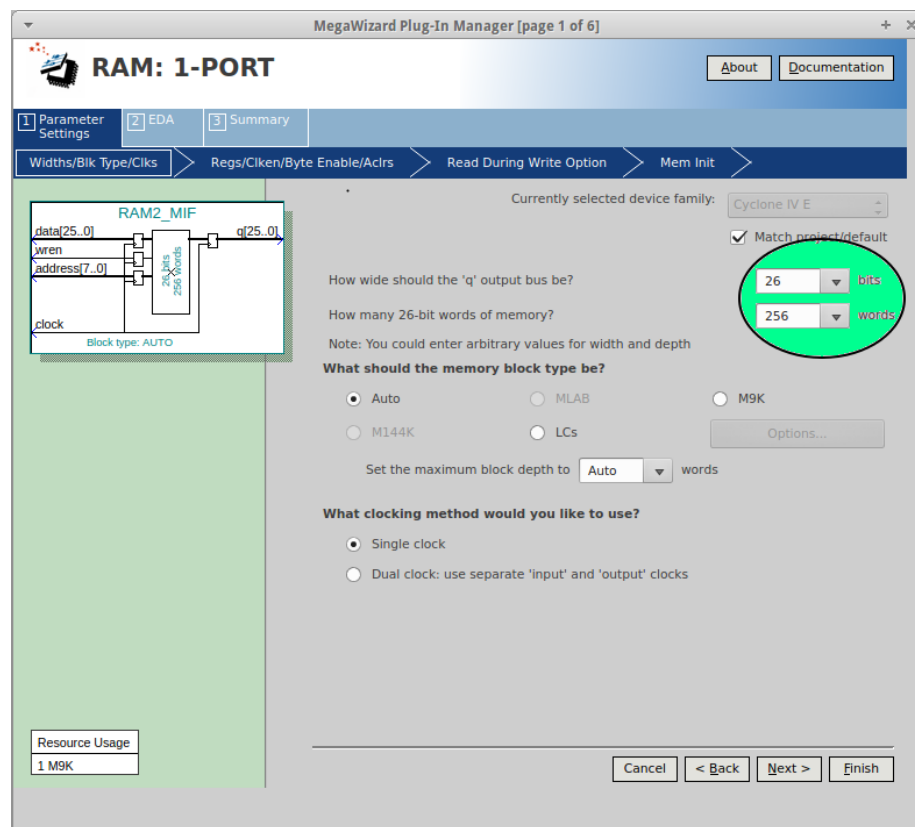

Figure 6: Megawizard RAM: 1-PORT Configuration
2. You should have a MegaWizard window open now, like the one shown in figure 6. Select the appropriate number of bits and words corresponding to the memory file created. The one given to you has 26 bit output (uses all the LEDs on the bottom of the FPGA) and 256 words (256 different pattern of 26 bits). Leave everything else as it is, Click **Next**.